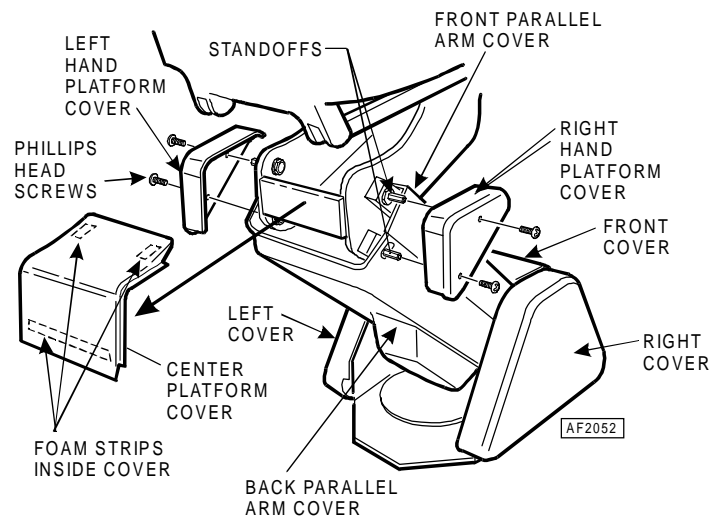

Figure 1
1. Remove eight chair covers; left hand platform cover, right hand platform cover, center platform cover, back parallel arm cover, front parallel arm cover, left cover, right cover and front cover. (See Figure 1).